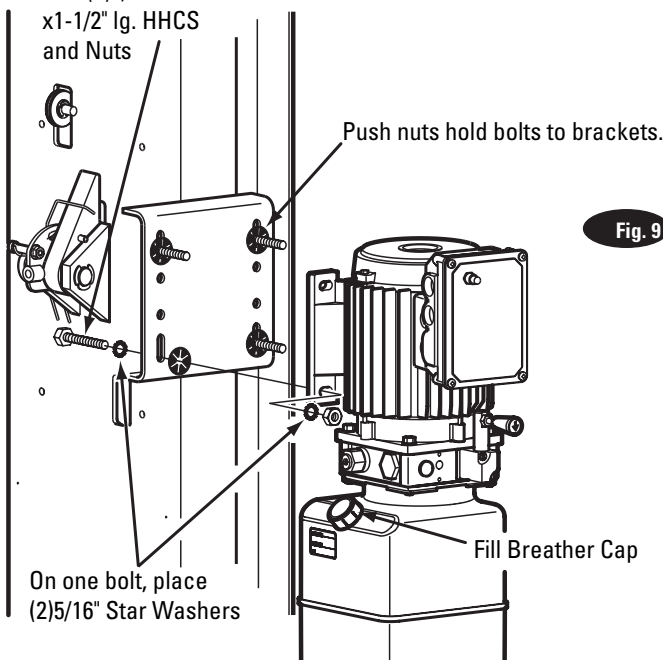

Fig. 9
9. Power Unit: First install (1) star washer onto one of the (4) 5/16"-18NC x 1-1/2" HHCS. *This is very important for grounding.* Put the (4) 5/16"-18NC x 1-1/2" HHCS thru holes in power unit bracket using Push-Nuts to hold in place, Fig. 9. Mount unit with motor up to column bracket and install (4) 5/16" star washers and 5/16" Nuts. Install and hand tighten Branch Tee to pump until O-ring is seated. Continue to tighten the locknut to 10-15 ft-lbs., or until the nut and washer bottom out against the pump manifold. **NOTE:** You may still be able to rotate the Branch Tee. This is acceptable unless there is seepage at the O-ring. If so, slightly tighten the locknut.